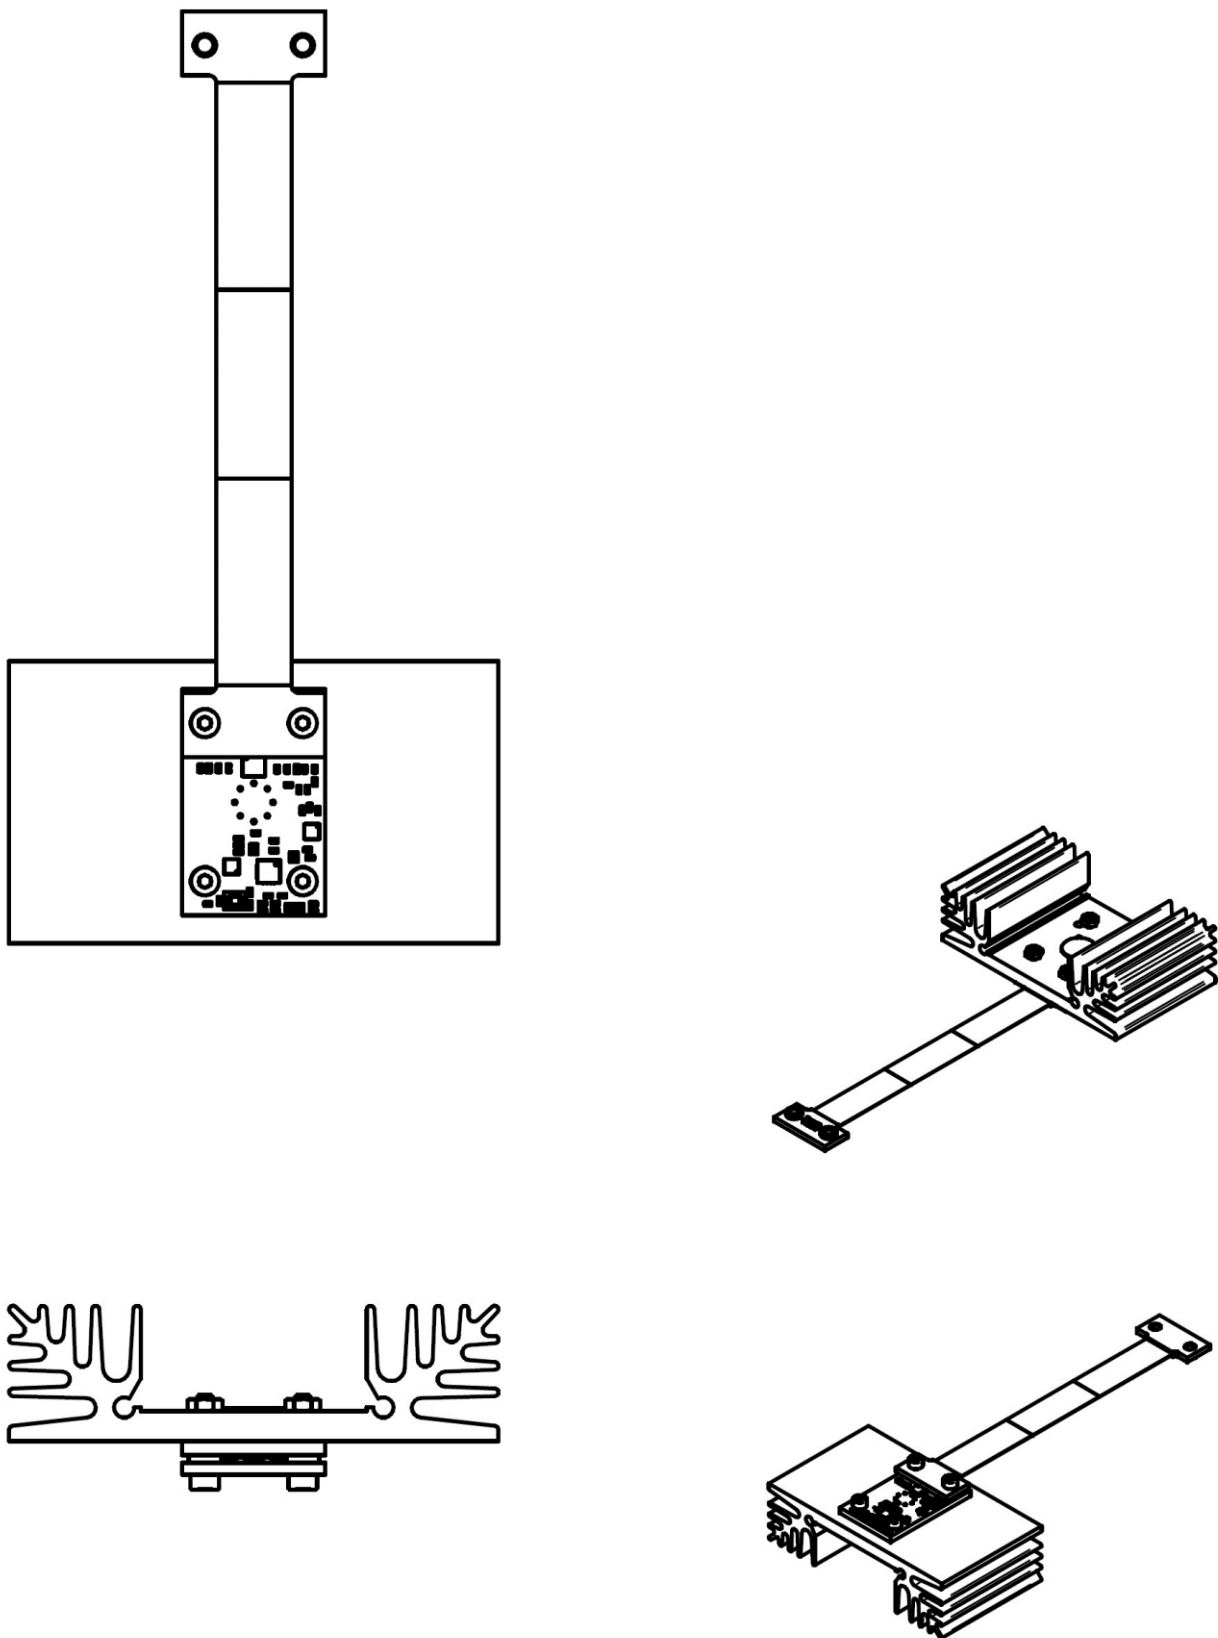

FIGURE 22. Example application of the AMS3140-01 with the flexible PCB
The second source of heat is the electronic components on the bottom of the PCB. For applications with high cooling power, it is recommended to leave the bottom side of the module uncovered. An example of such a solution is presented in FIGURE 22.
- Semi-flexible PCB. Receptacle *Amphenol 101R014FB110* has to be placed on the rigid part and the flexible part can be used to connect signals and power supplies to another PCB (FIGURE 22).